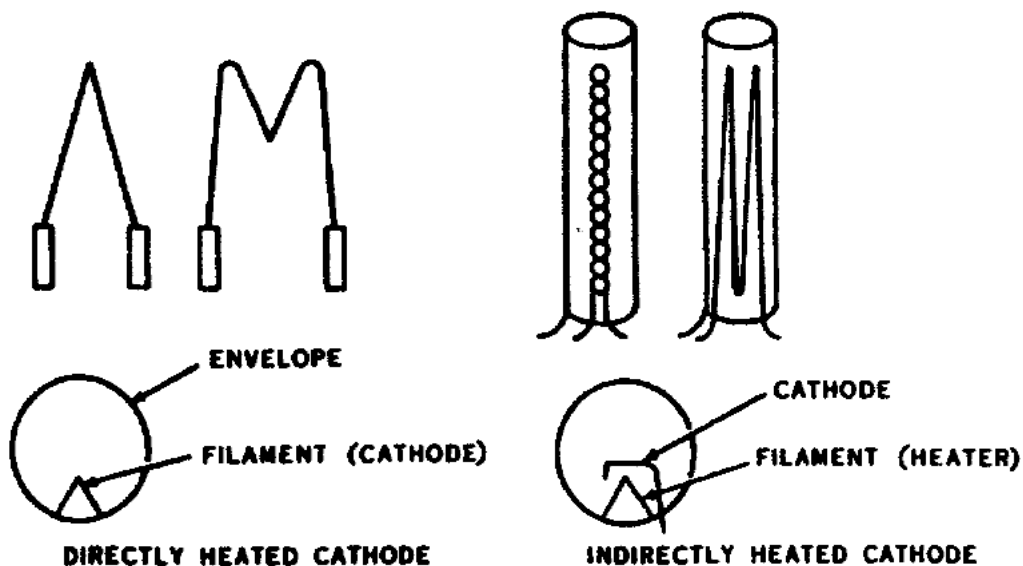

Figure 87. Indirectly and directly heated cathodes.
4. The cathode must be heated to a high temperature before electrons will be given off. However this does not mean that the heating current must flow through the actual material that does the emitting. You can see in figure 87 that the part that does the heating can be electrically separate from the emitting element. A cathode that is separate from the filament is an indirectly heated cathode, whereas an emitting filament is a directly heated cathode.